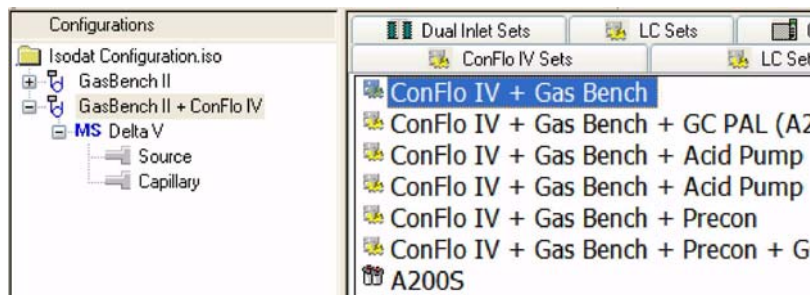

Figure 5-41. Selecting correct set from tab
6. From the appearing sets select **ConFlo IV + GasBench**. See Figure 5-41.